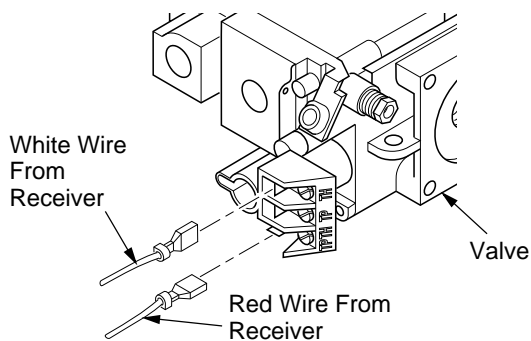

Figure 35 - Connecting Wires
6. Connect wires as shown in Figure 35.